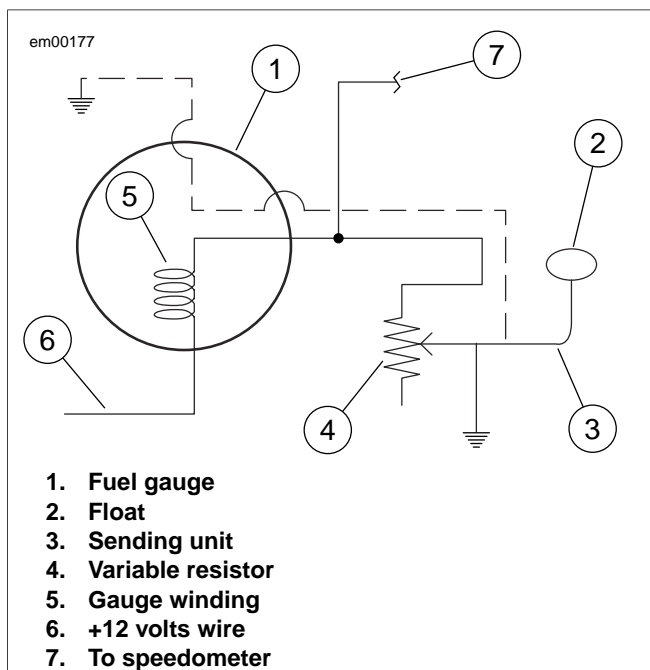

Figure 2-10. Fuel Gauge Schematic
See Figure 2-10. With ignition switch turned to IGNITION, the fuel gauge (1) is connected to 12V. Current flows through the gauge and variable resistor (4) in the fuel gauge sending unit (3) to ground. The sending unit float (2) controls the amount of resistance in the variable resistor.